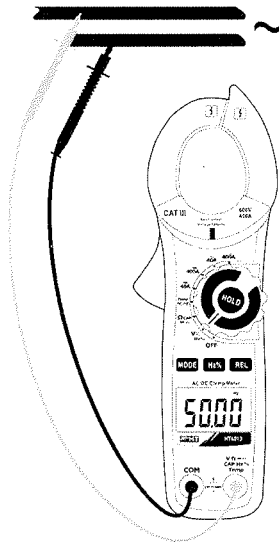

Fig. 4: Use of the clamp for frequency measurement and duty cycle
3. Insert the red cable into input terminal $V\Omega\sim\rightarrow\rightarrow\rightarrow$ CAPHz%Temp and the black cable into input terminal COM (Fig. 4) for measuring frequency with leads. The value of frequency (Hz) or of duty cycle (%) is shown on the display.